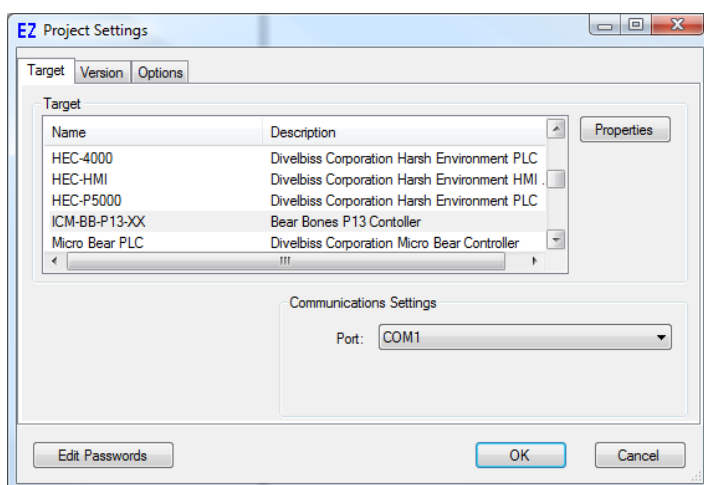

Figure 2-4 - Project Settings
1. In EZ LADDER, from the File Menu at the top, click **PROJECT** then **SETTINGS**. This will open the Project Settings Window. Select **ICM-BB-P13-XX** as the target from the choices. Refer to Figure 2-4.